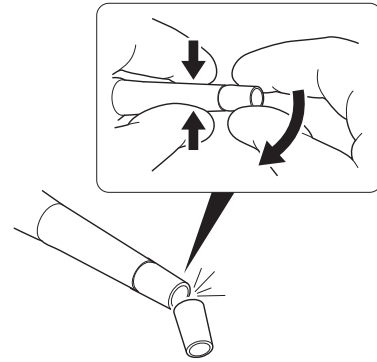

Figure 85 – Sleeve Frangible Section Removal
- Grasp the sleeve close to the frangible section perforation (Figure 85).